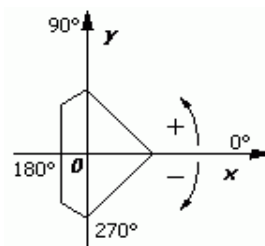

Figure 2: Coordinate system of the robot
The robot coordinate system assignments is shown at Fig. 2. The robot is in "basic" position (heading = 0°). The position of virtual sensors placed on the robot is given in this coordinate system. When creating user-defined shape of a robot, it could be useful to keep an eye on this figure.
7. Shape type indicator. Can be either *Default* (for default shape - see e.g. Fig. 2), or *User Defined* (if the user modifies the shape)